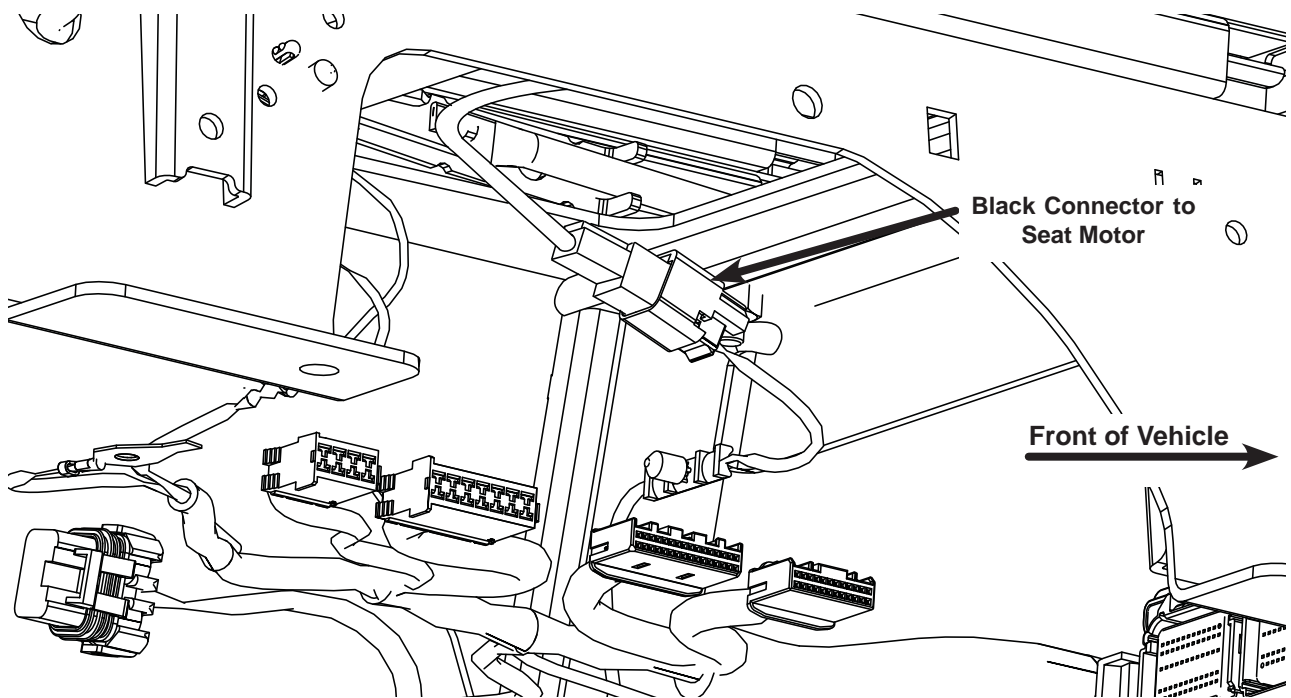

Fig. 20
32. Re-connect black connector to motor located under fixed seat riser See Fig. 20